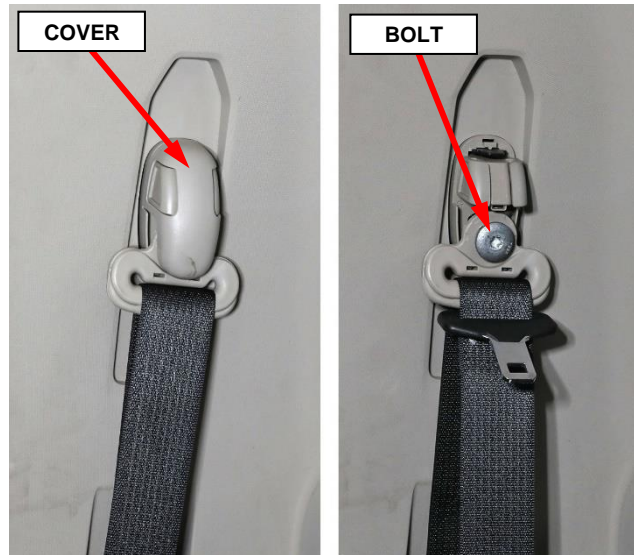

Figure 52 – Seat Belt Turning Loop
18. On the B-pillar, separate the seatbelt turning loop cover then remove the turning loop bolt (Figure 52).
19. On the B-pillar, use a small flat-bladed tool to carefully open the two fastener covers (2) located on the grab handle (Figure 52).
59. Using a **NEW** bolt and reusing the spacer washer, install the turning loop then tighten the bolt to 40 N·m (30 ft. lbs.) (Figure 52).
60. Install the seat belt turning loop cover (Figure 52).